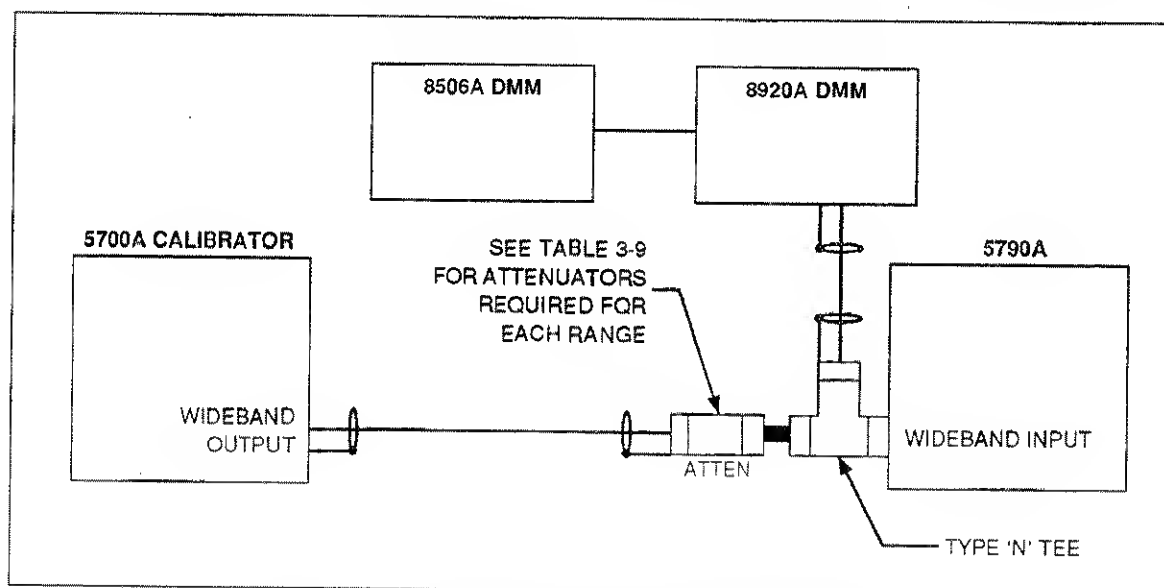

Figure 3-20. Wideband Verification Test Setup, Part 2
7. Move the input to the WIDEBAND input of the 5790A as shown in Figure 3-20. Remove the 50 Ω termination but keep the 50 dB of attenuation.
7. Move the input to the WIDEBAND input of the 5790A as shown in Figure 3-20. Remove the 50 Ω termination but keep the 60 dB of attenuation.
7. Move the input to the WIDEBAND input of the 5790A as shown in Figure 3-20. Remove the 50 Ω termination but keep the 70 dB of attenuation.